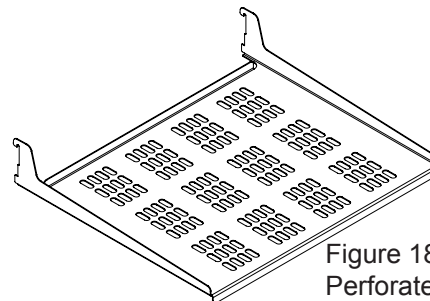

Figure 18
- (2) perforated metal cantilever shelves. (See Figure 18).